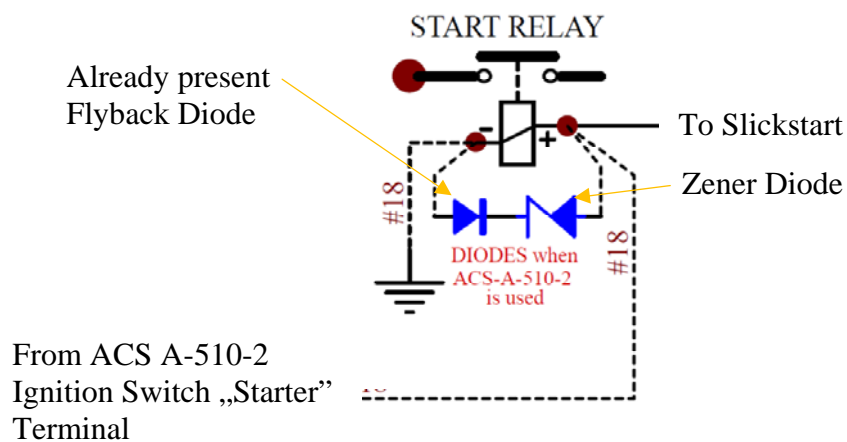

Figure 3: Starter Solenoid Wiring with opposite oriented Diodes
11. Attach the Zener diode (EXTRA P/N 35842) in opposite direction of the present flyback diode using a crimp contact (EXTRA P/N FE4108), see Figure 3.